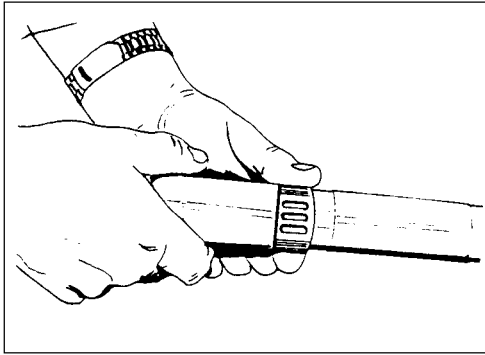

Figure 14
**NOTE:** Twist the bleed-off ring to the "Open" position for less suction. Use the "Open" position when cleaning small rugs or drapes. Use the "Closed" position when cleaning carpet or furniture. See figure 14.